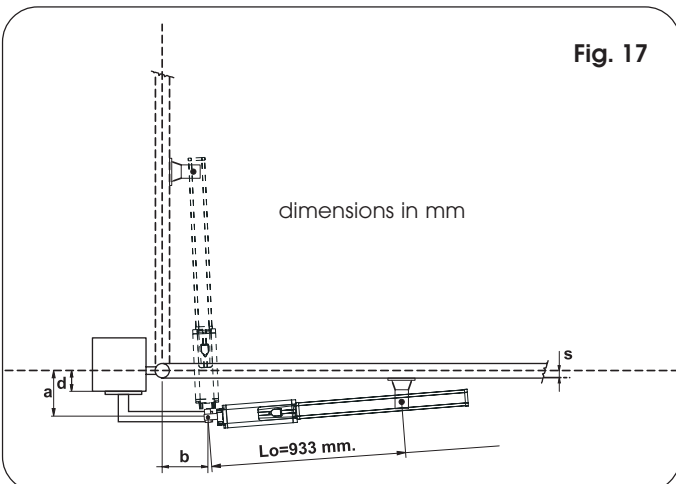

Fig. 17
**9.1. OPENING TOWARD THE OUTSIDE, WITH OPERATOR INSTALLED INSIDE (Fig. 17)**